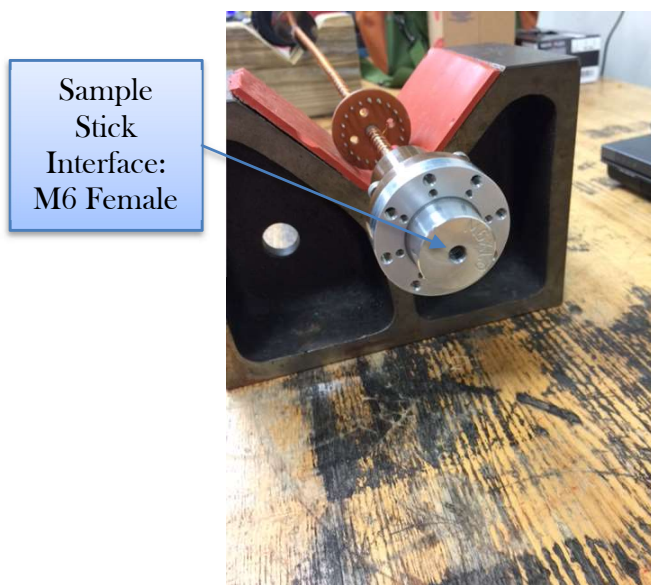

Figure 12
- 1.17 Load sample stick with desired sample (Figure 12)